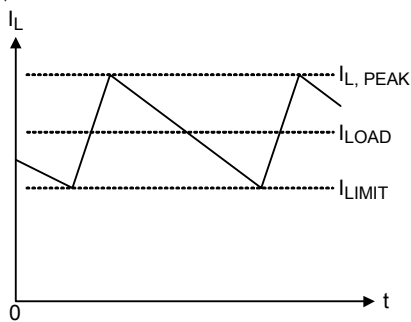

Figure 2. "Valley" Current Limit
The RT8234A has cycle-by-cycle current limiting control. The current limit circuit employs a unique “valley” current sensing algorithm. If the magnitude of the current-sense signal at PHASE is above the current limit threshold, the PWM is not allowed to initiate a new cycle (Figure 2). In order to provide both good accuracy and a cost effective solution, the RT8234A supports temperature compensated MOSFET RDS(ON) sensing.